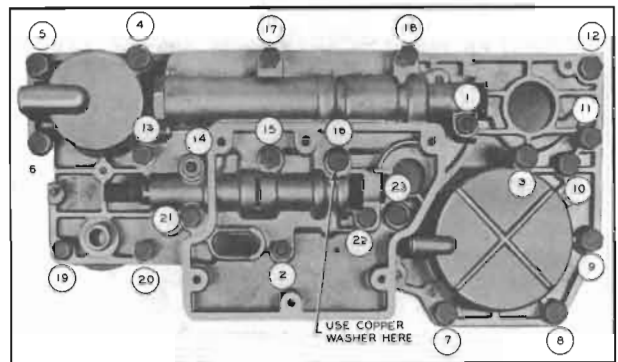

Figure 5-99—Valve and Servo Body Bolt Tightening Sequence
4. Install various length bolts with lockwashers according to depth of holes through valve and servo bodies. *Use copper washer on bolt indicated in Fig. 5-99.*
numerical sequence shown in figure 5-99. Repeating the same sequence, tighten all $\frac{1}{4}$ " bolts and nuts to 11-15 ft. lbs. torque and all $\frac{5}{16}$ " bolts to 15-20 ft. lbs. While tightening bolts and nuts adjacent to the shift control valve, operate the valve to make certain that it is not binding—it may be necessary to adjust some bolts to low limit on torque to prevent valve binding.